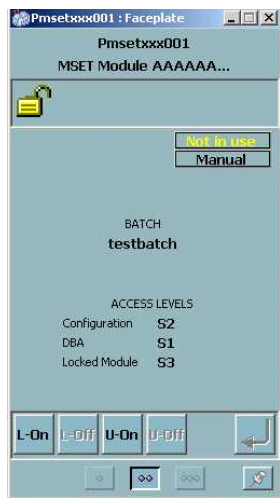

Figure 212. MSET Module
**Module Set (MSET).** The Module Set module faceplate represents a definition for associating a logical grouping of Controlware modules in an 800xA for DCI controller. Entering the MSET number into the MSET atom of each Controlware module makes the logical grouping. The MSET allows single commands for locking, unlocking, or changing security access levels to be invoked across all modules in the group at once. The MSET module reports the lock state, the security levels for 3 data access types, the batch name currently in use (Note that 800xA batch management is not yet supported by 800xA for DCI), and alarm status are used for display in the faceplate. Figure 212 shows the layout of the MSET normal sized faceplate and its attributes.